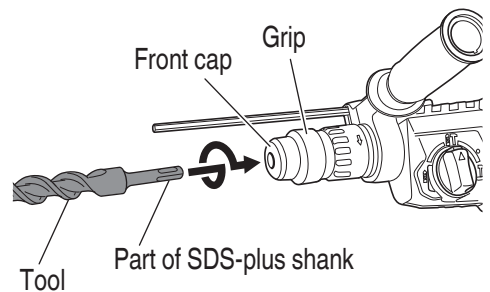
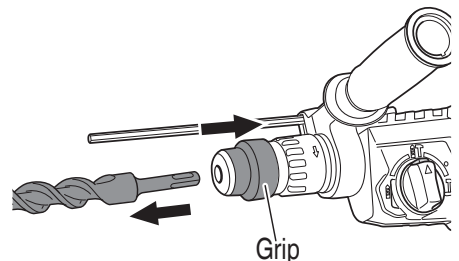

Fig. 1
Fig. 2
4. Mounting the tool (Fig. 1)
- (1) Clean the shank portion of the tool.
- (2) Insert the tool in a twisting manner into the hole of front cap until it latches itself (Fig. 1).
- (3) Check the latching by pulling the tool.
- (4) To remove the tool, fully pull the grip in the direction of the arrow and pull out the tool (Fig. 2).